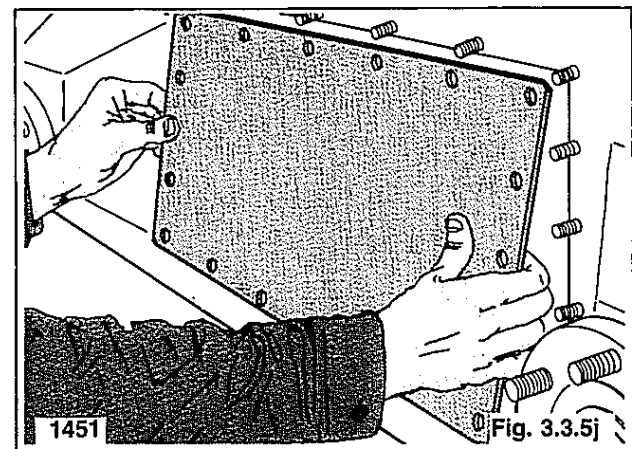

Fig. 3.3.5j
9. Apply silicon sealer to the inspection cover and install the cover on the final drive housing (fig. 3.3.5j).